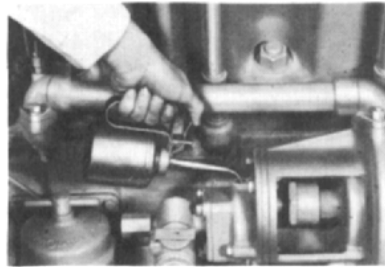

Fig. 38. Hour-meter gear housing
3. Drain, wash, and refill the hour-meter gear housing. See Fig. 38.